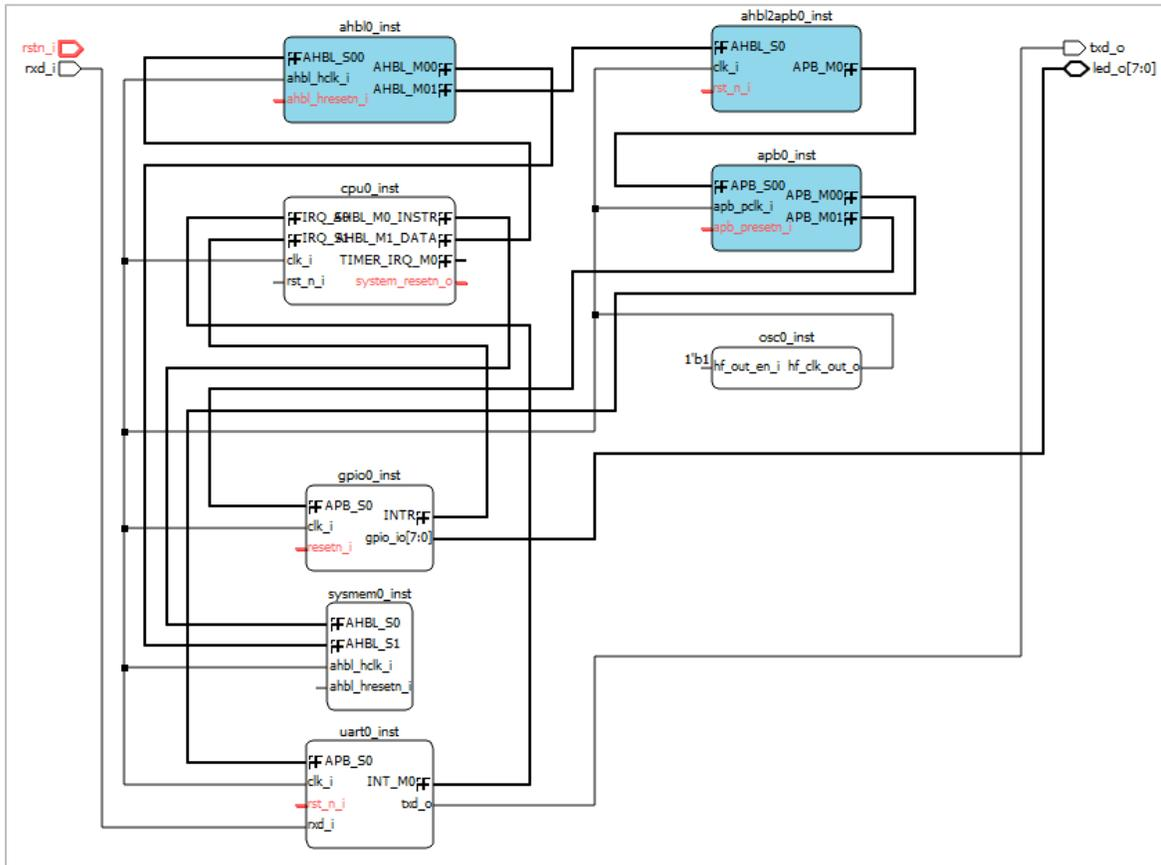

Figure 2.48. Select More than One Ports
- You can connect multiple ports once. When more than one port is selected (Figure 2.48), click **connect**  from the right-click menu to implement it.